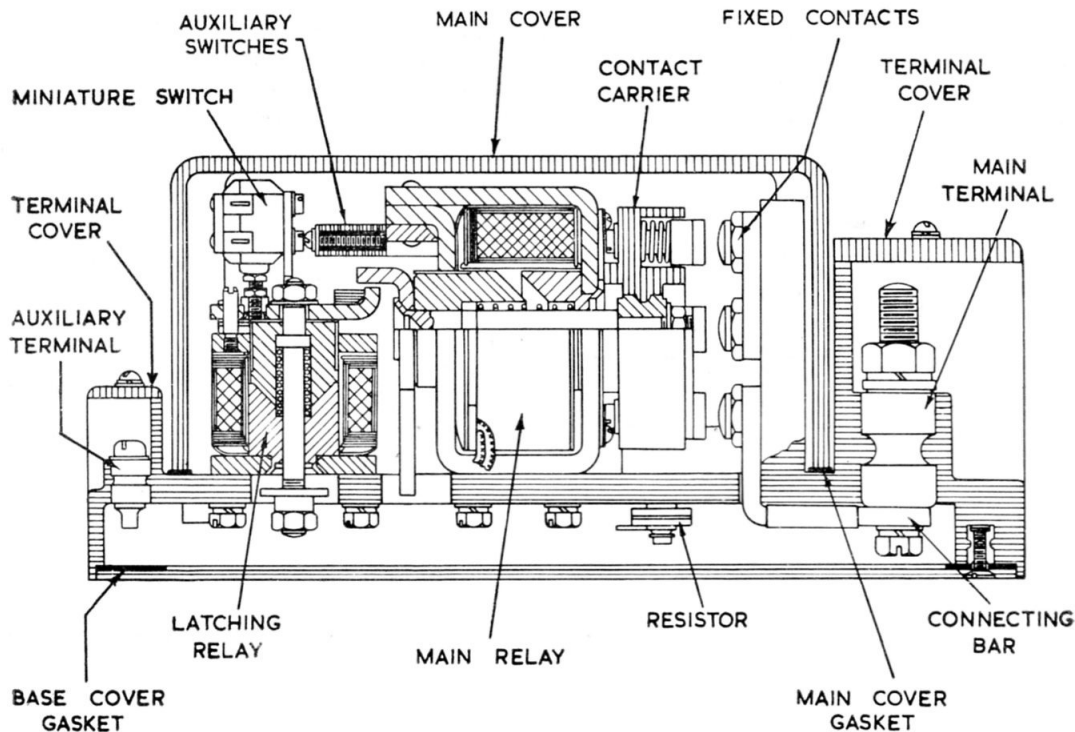

Fig. 2. Sectional view of contactor
2. A sectional view of the contactor is shown in fig. 2. It incorporates two electromagnetic relays, the main relay with its armature axis horizontal, and a latching relay with its armature axis vertical.